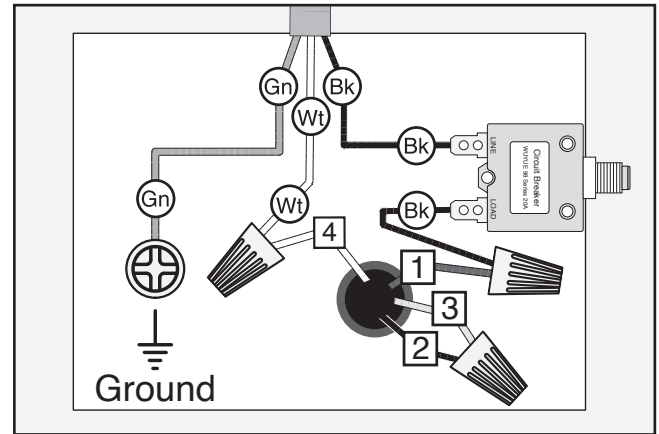

Figure 8. Motor rewired to 240V.
4. Install new circuit breaker, then connect wires as shown in **Figure 8**. Twist wire nuts onto their respective wires and wrap them with electrical tape so they will not come loose.